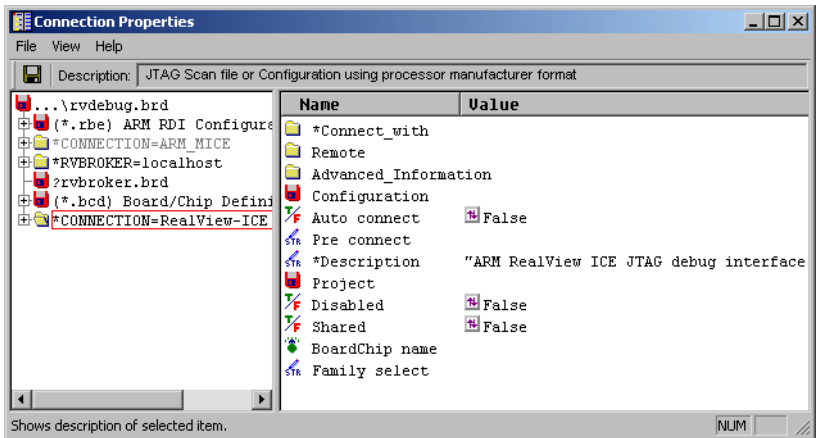

Figure 4-3 CONNECTION groups in the Connection Properties window
4. Select **Connection Properties...** from the context menu to display the Connection Properties window, shown in Figure 4-3.